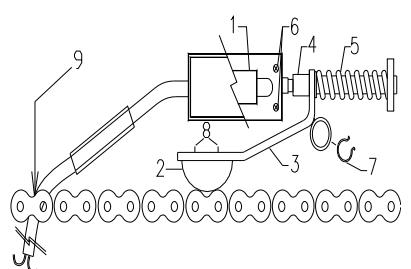

Fig.18
2. Mount the chain switch (1) with the 2-hexagon headcap screws (6) to the base frame (Fig.18).
3. Mount the rubber chain guiding (2) to the switch arm (3) with two-screw (8).
4. Mount the switch arm on the pivot-pin on the base frame and fix it with a seeger (7).
5. Put pin (4) with spring (5) with one side in the hole of the switch arm and the other side through the hole of the plate welded on the base-frame.
6. Check if the chain doesn't touch the wiring (9).